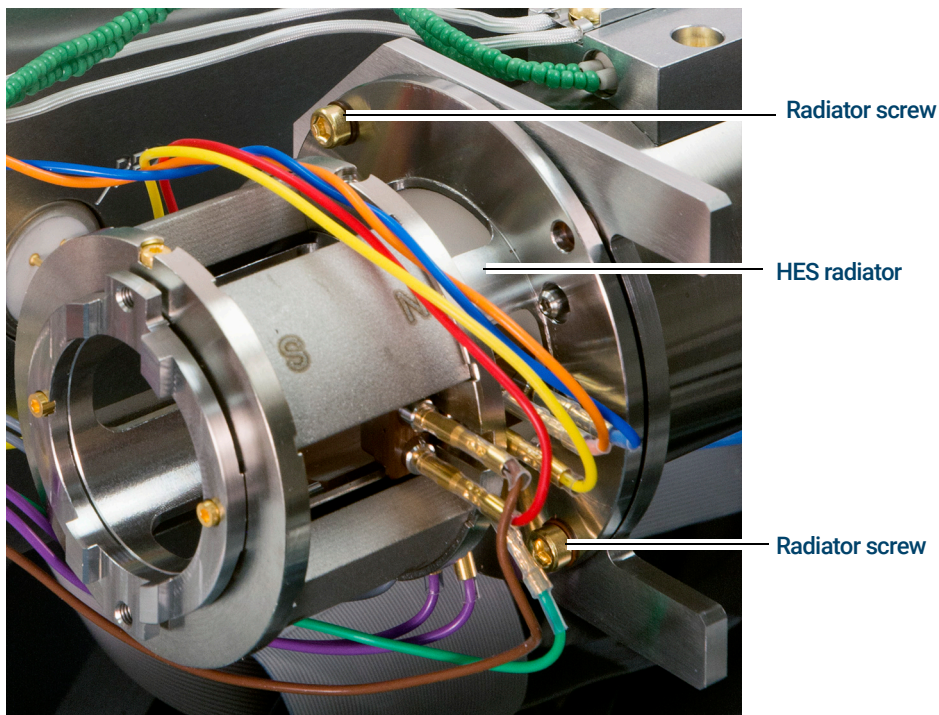

Figure 70. Removing the EI HES radiator
- 5 Use a T10 Torx screwdriver to loosen the two screws that secure the radiator to the analyzer and place the radiator in its storage container. (See Figure 70 on page 219.)